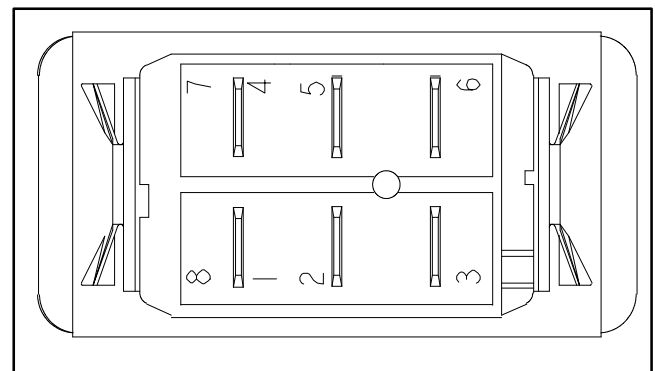

Figure 49
4. With the use of a multimeter (ohms setting), test the switch functions to determine if continuity exists between the various terminals for each switch position. Check the continuity between the switch terminals. The windshield wiper/washer switch terminals are identified in Figure 49 and the circuitry of the switch is shown in below table: